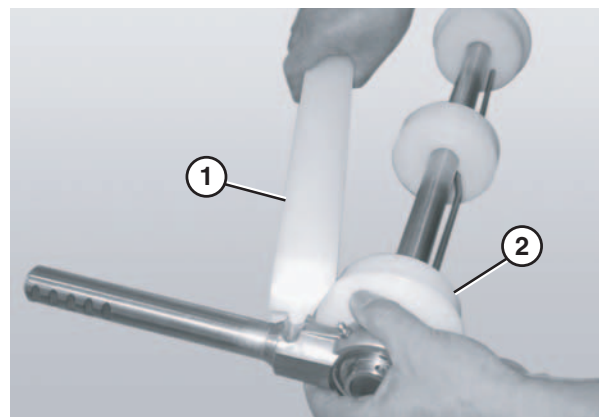

Figure 83
3. Attach the flanged pucks (Figure 83, item 2) and bearing shaft assemblies to the idler shaft.
4. Attach the guard bar (Figure 83, item 1).